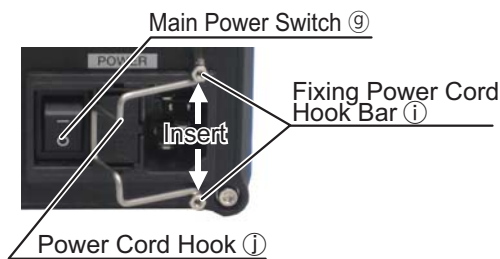

Fig. 15
- (1) Insert the power cord hook to the fixing power cord hook bar on the rear of the control unit. Refer to the Fig. 15.